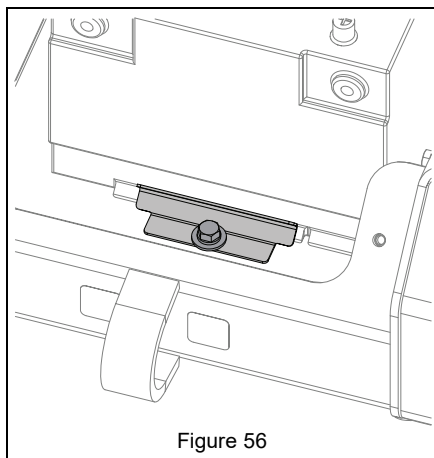

Figure 56
3. Check battery hold down clamp for tightness. Do not overtighten. See Figure 56.